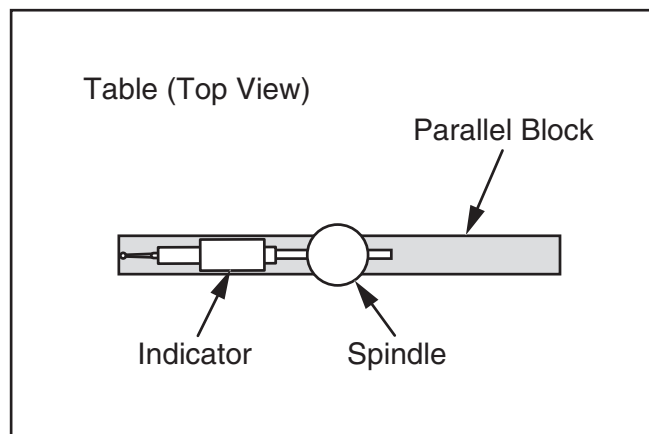

Figure 62. Parallel block and indicator positioned for the X-axis measurement (top view).
5. To measure spindle alignment along X-axis, place parallel block directly under spindle and indicator across length of table, as illustrated in **Figure 62**.